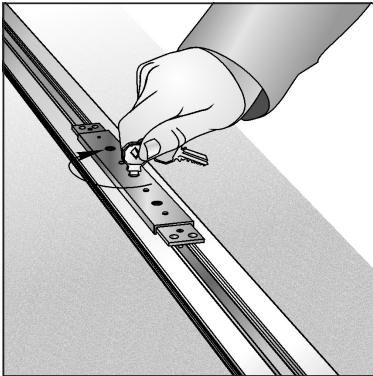

Fig. 11
- check the key lock operation with a key (Fig. 11). In "Open" position: locking flat bars must not stand out for the butt ends of the end slat profile.